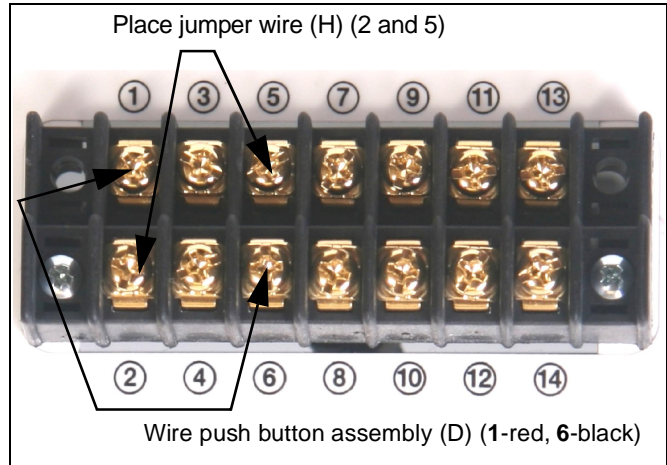

Figure 3
5. Place the jumper wire (H) on the external wiring terminal contacts labeled **2** and **5**, and wire the push button assembly (D) to contacts **1** (red) and **6** (black). (See Figure 3).
2. Remove the jumper wire and supplied push button wiring (previously installed in the **Pre-Test Lift before Installation** section) from the external terminal block. (See Figure 3)